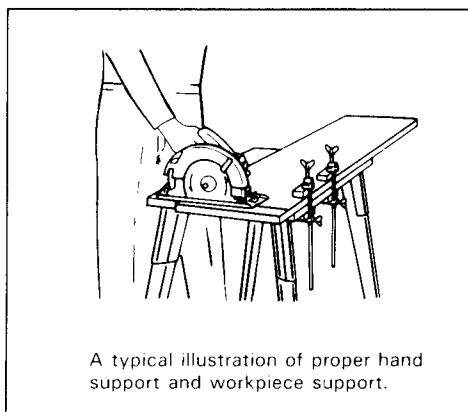

Fig. 4
12. **Operate with proper hand support and proper workpiece support** (see Fig. 4).
It is important to support the workpiece properly and to hold the saw firmly to prevent loss of control which could cause personal injury. Fig. 4 illustrates typical hand support of the saw.